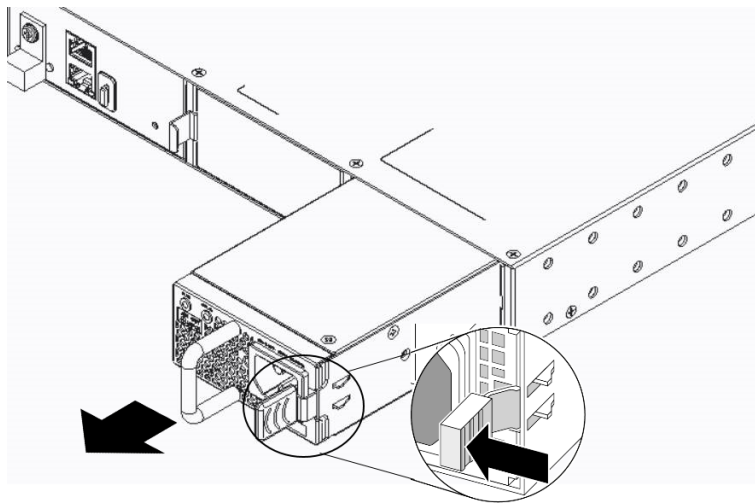

Figure 26: Removing a 800 W AC Power Supply
5. Push the latching tab toward the power supply handle and pull outward on the handle to disengage the power supply internal connectors. See Figure 26.